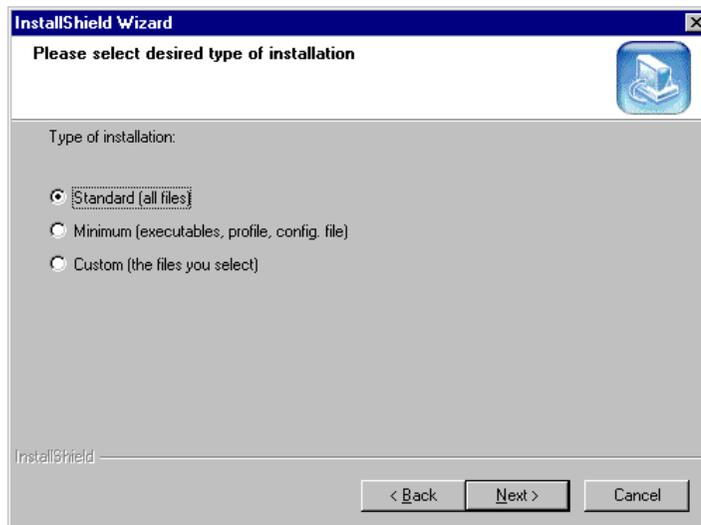

Figure 69. Selecting type of installation
- Select the standard type of installation (Figure 69)